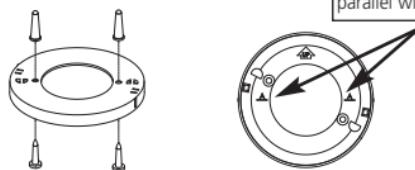

FIGURE 1
- 2). To ensure aesthetic alignment of the alarm with the hallway, the "A" line on the mounting plate should be parallel with the hallway when ceiling mounting.(Figure 1)
- 3). After selecting the proper smoke alarm location as described in Section 1, attach the mounting plate to the ceiling as shown in Figure 1. Use the screws and anchors provided to secure the mounting plate.